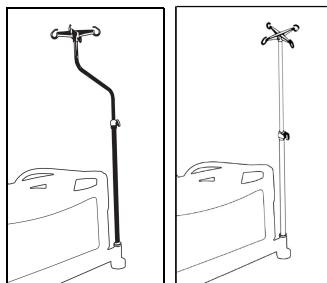

Figure 22 – Installing the IV pole
1. Insert the IV pole into one of the four accessory sleeves (Figure 22).